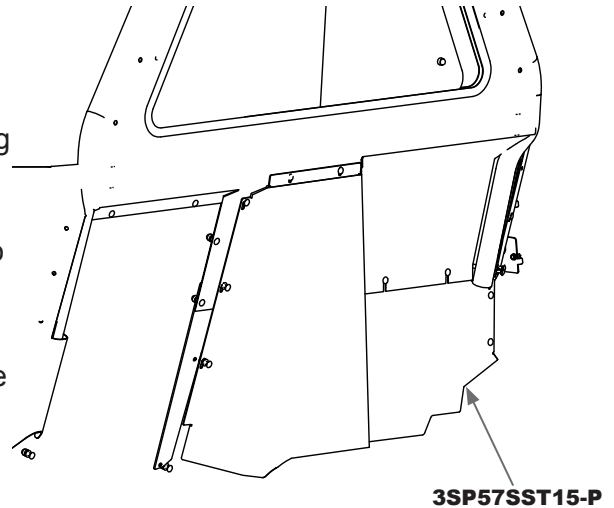

fig. 7
- E. Place the passenger's side bucket seat protector (3SP57SST15 - P) in the vehicle from the front and set in location. Get all bolts started and tighten to secure. (See main diagram on page 7 and fig. 7)